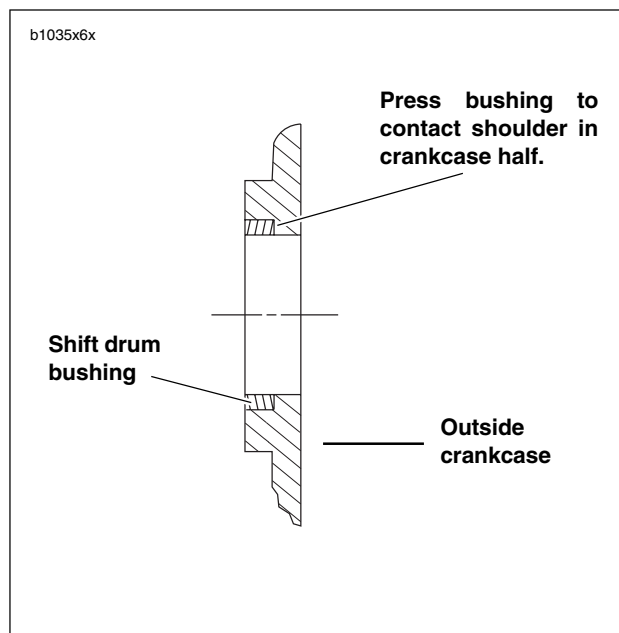

Figure 6-82. Shift Drum Bushing Assembly
2. See Figure 6-82. Lay bushing squarely over bore. Using a pressing tool larger than diameter of bushing, press bushing into bore until bushing contacts shoulder in left crankcase half. If using a pressing tool larger than diameter of bushing, the pressing tool will bottom against crankcase when bushing is flush with top surface.